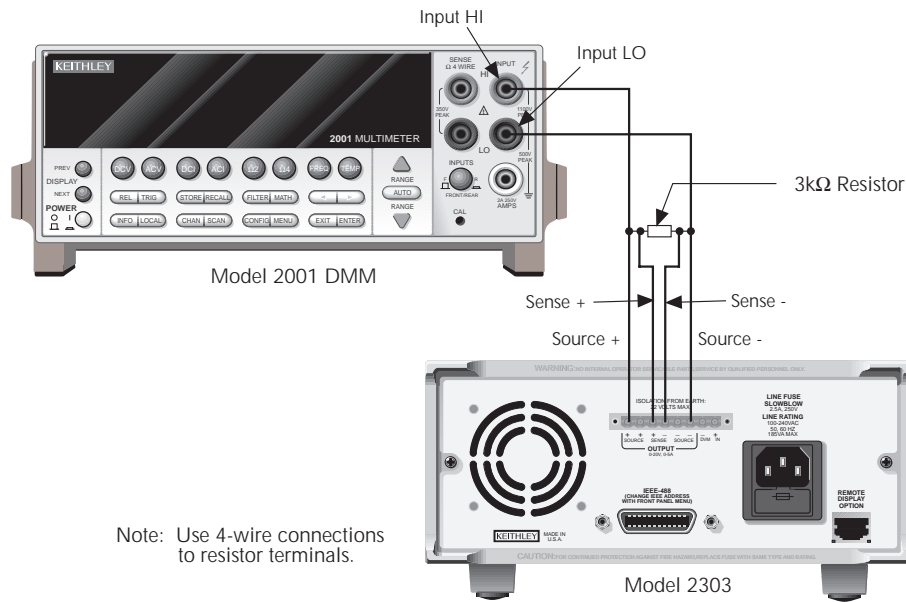

Figure 2-4
15. Disconnect the 4Ω resistor, then connect the $3k\Omega$ resistor in its place. (See Figure 2-4.)